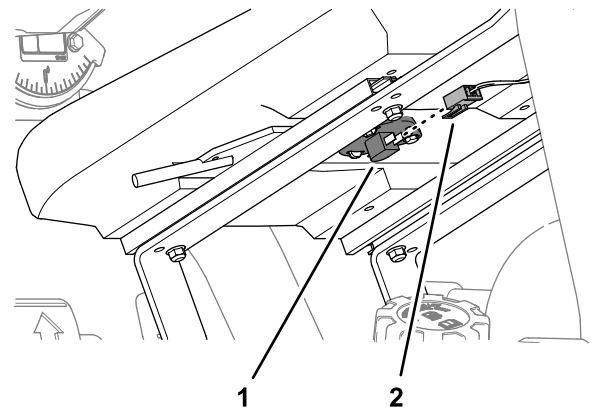

Figure 56
2. Connect the 2-socket connector to the terminals for the seat switch (Figure 56).